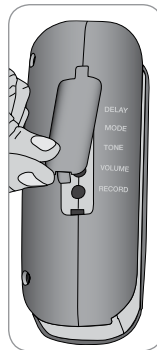

Fig. 4
1. Lift the programming control protective cover (Fig. 4).